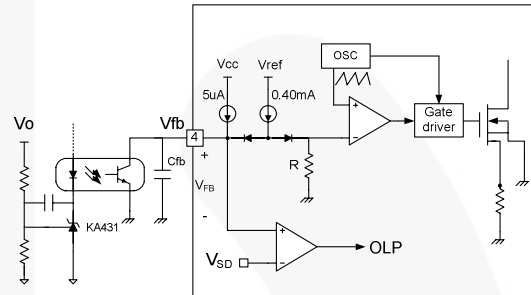

Figure 17. PWM and Feedback Circuit
2. Feedback Control: The FSDM311A is the voltage-mode controlled device, as shown in Figure 17. Usually, an opto-coupler and shunt regulator, such as KA431, are used to implement the feedback network. The feedback voltage is compared with an internally generated sawtooth waveform that directly controls the duty cycle. When the shunt regulator reference pin voltage exceeds the internal reference voltage of 2.5V, the opto-coupler LED current increases, the feedback voltage V_{FB} is pulled down, and it reduces the duty cycle. This happens when the input voltage increases or the output load decreases.